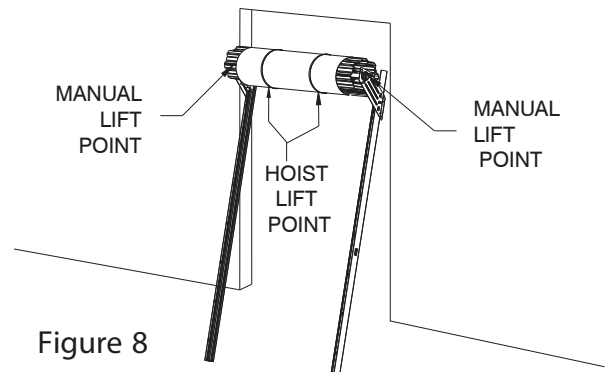

Figure 8
1. Lift the banded curtain and guides up with a lift, hoist, or two people and place the guide assemblies against the jambs while supporting the curtain weight. See Figure 8.
Attempting a one-man installation can result in serious bodily injury and/or damage to door. See Figure 8 for recommended method.